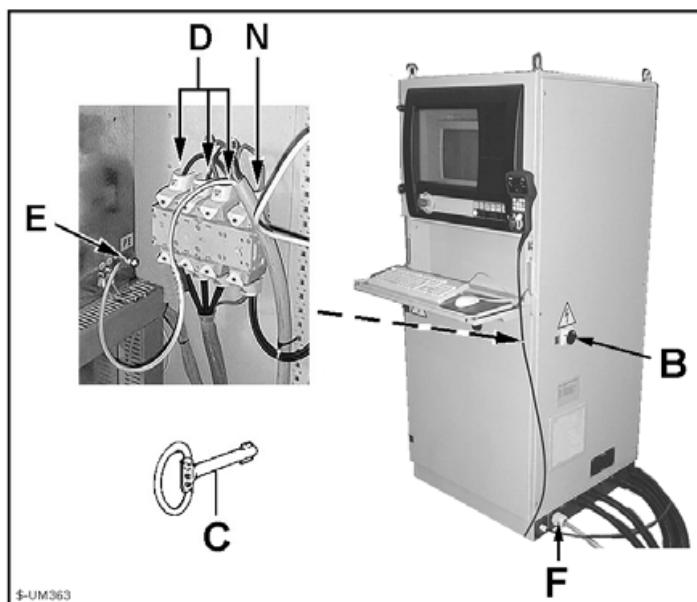

Fig. 2.16
- Turn the main switch B (fig.2.16).